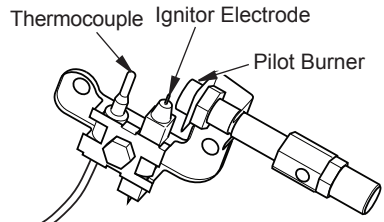

Figure 17 - Pilot
4. Wait five (5) minutes to clear out any air. Then smell for gas, including near the floor. If you smell gas, STOP! Follow "B" in the safety information, page 16. If you do not smell gas, go to the next step.
5. Turn control knob counterclockwise  to the PILOT position. Press in control knob for five (5) seconds (see Figure 17).